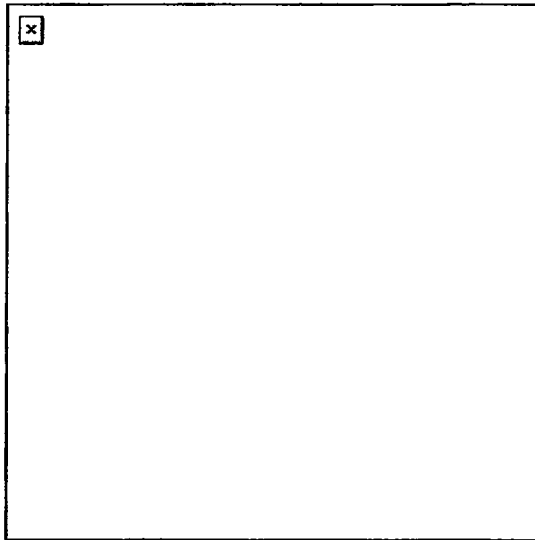

Figure 5. Removal of the primary drive lever and vertical cam assembly.
- (2) Press down on the primary drive lever's pivot post. This releases the primary drive lever and vertical cam assembly (Figure 5).